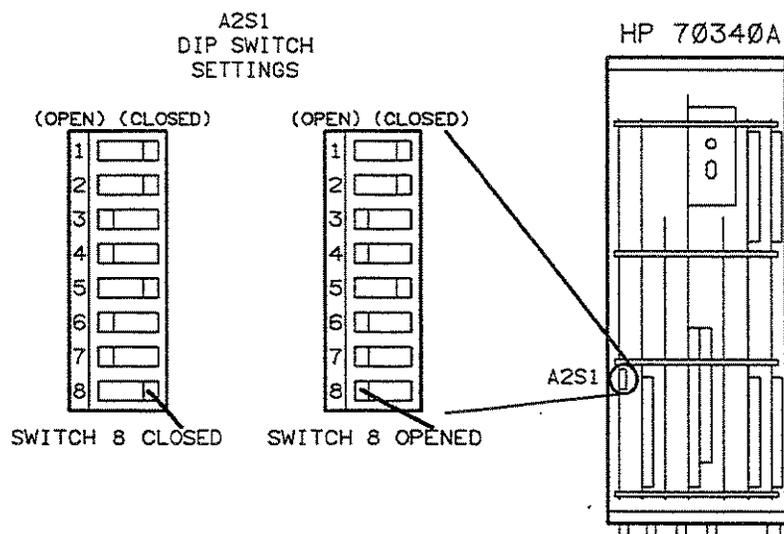

Figure 2-1. DIP Switch, A3S1, Settings
1. Close PG(8) on the DIP switch, A3S1, as shown in figure 2-1.
5. When the routine completes, open PG(8) of the DIP switch, S1. Refer to figure 2-1.
- a. Open PG(8) of the DIP switch, S1. Refer to figure 2-1.